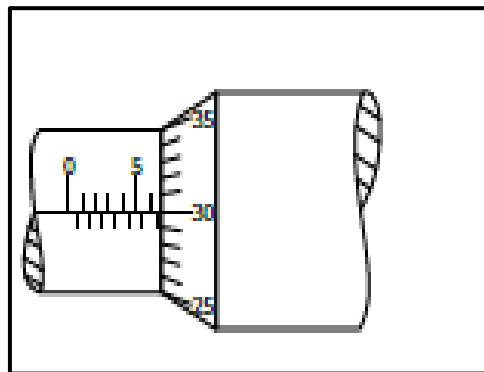

FIGURE 7.3
7.3 Determine the readings of the screw thread micrometres shown in FIGURE 7.3.